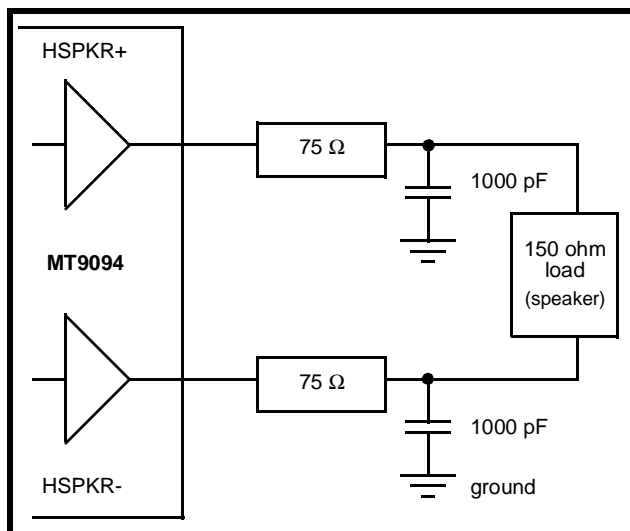

Figure 4 - Handset Speaker Driver
- ◆ The handset speaker outputs (receiver), pins HSPKR+/HSPKR-. This internally compensated, fully differential output driver is capable of driving the load shown in Figure 4. This output is enabled/disabled by the HSPKR EN bit residing in the Transducer Control Register (address 0Eh). The nominal handset receive path gain may be adjusted to either -12.3dB (suggested for μ -Law) or - 9.7dB (suggested for A-Law). Control of this gain is provided by the RxA/ \bar{u} control bit (General Control Register, address 0Fh). This gain adjustment is in addition to the programmable gain provided by the receive filter and DSP.